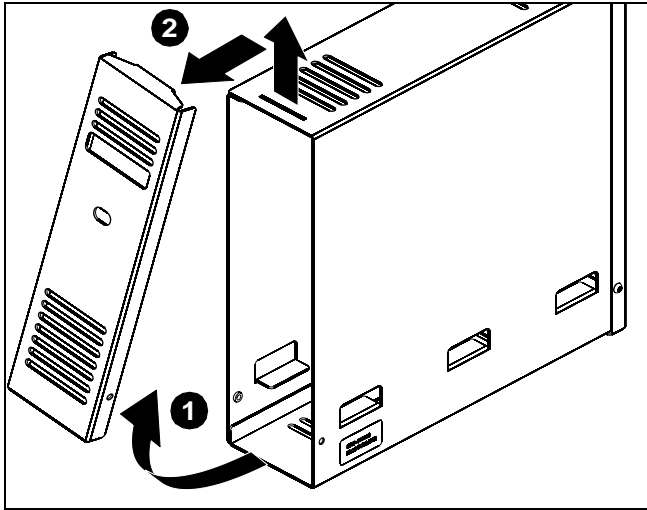

Figure 1
1. Swing open the CMA-170 end door. (See Figure 1)
2. Lift end door up and out of top tab. (See Figure 1)